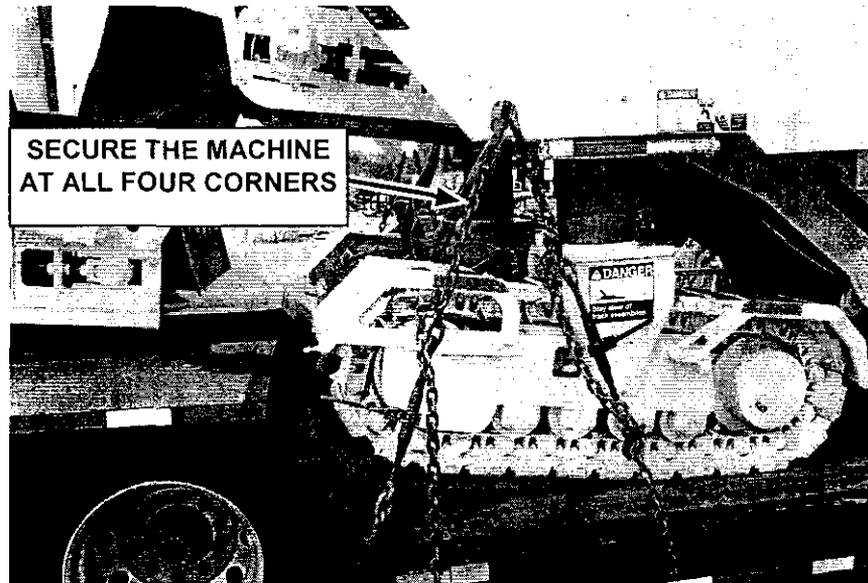

FIGURE 69
24. Securely tie the machine down to the transport vehicle. Each corner of the machine is equipped with a tie down point. Secure the machine to the transport vehicle with chains and tensioners at all four of the tie down points (figure 69).